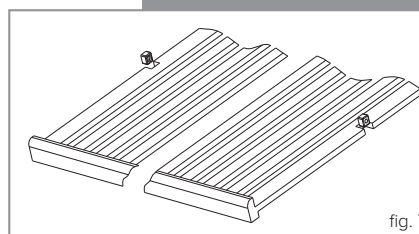

fig. 7
To remove the shelves from the wine cooler, first remove all bottles from the shelf, then pull the shelf forwards until the groove on either side of the shelf is level with the plastic peg on either side of the cabinet (as shown in fig 7). Then lift the shelf up and pull forwards.
1. Remove the rear ventilation trim (2) by removing screws (1) and then remove the front ventilation trim (4) by removing screws (3) as shown in figure 7.